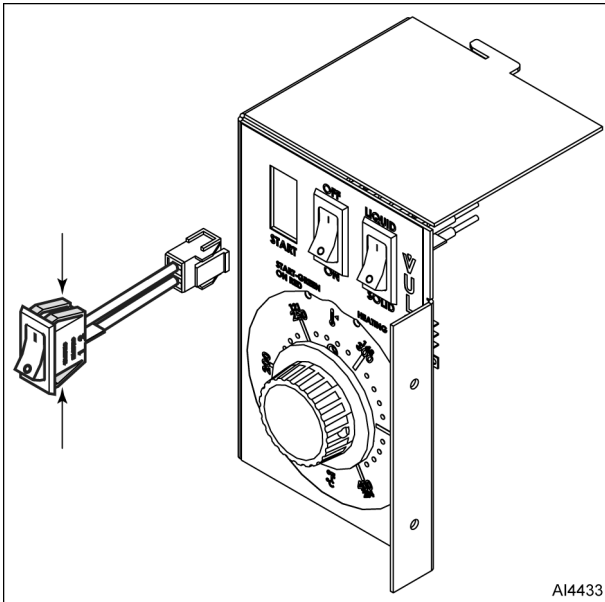

Fig. 10
- Remove rocker switch (Fig. 10) from control box assembly.